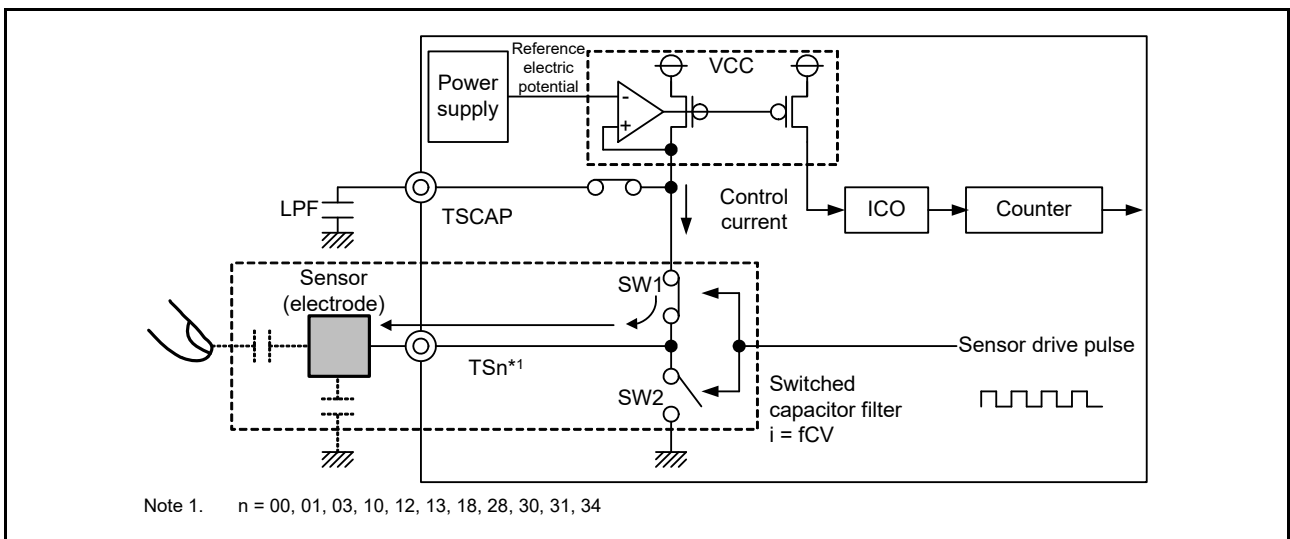
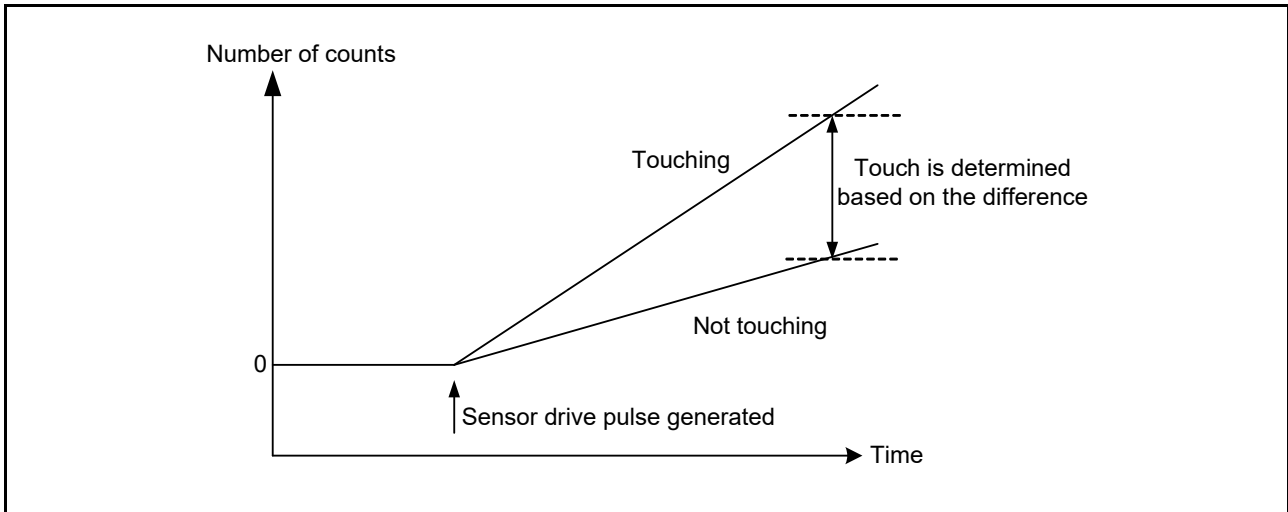

Figure 40.5 Charging operation
Figure 40.7 Change in measured value when finger is touching and not touching
Figure 40.5 to Figure 40.7 explain the electrostatic capacitance measurement operation principles of the CTSU current frequency conversion method. The operation is as follows:
1. The electrostatic capacitance of the electrode is charged by turning SW1 on and SW2 off (Figure 40.5).
3. Current flows to the switched capacitor filter by repeatedly charging and discharging the electrodes as in step 1. and step 2.. At this point, if a finger is in close proximity, the capacitance and the flowing current change. A clock is generated by supplying the control current, a current that is proportional to the amount of the current flowing through the switched capacitor filter, from the circuit that generates the TSCAP power supply to the ICO. The counter measures the clock frequency that changes depending on whether a finger is in close proximity. Software uses the value read from the counter to determine contact with a finger (Figure 40.7).